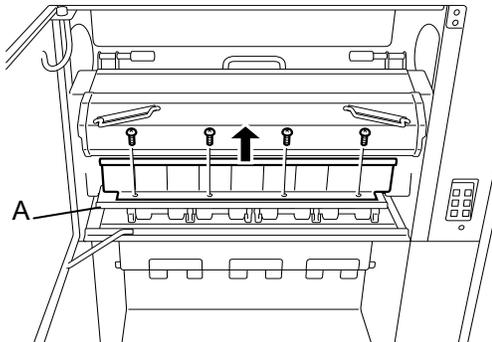

Figure E-3
4. Remove the exit guide A by removing the four screws. (Figure E-3)